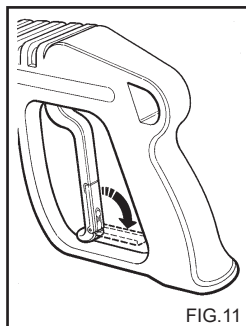

FIG. 11
- When the water cleaner is not used, close the safety device on the handle.(fig.11)